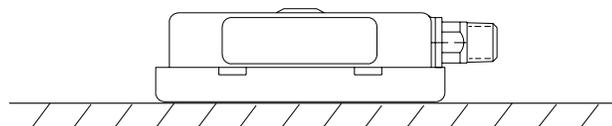

Figure 2
6. Place the gauge on its face on a sturdy, flat surface for one hour. See Figure 2. Again, inspect the gauge carefully for any leakage from the case seals, fill plug, gauge screws, window, or socket area. **Note: If any leakage is noticed, contact Power Team Technical Services Department for disposition.**